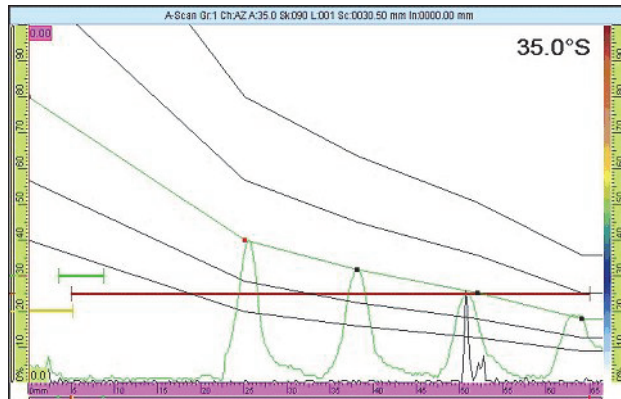

Figure 6-8 Verification of the DAC curve
3. Scan over each reflector, and verify that all reflectors are on the DAC curve (see Figure 6-8 on page 165).